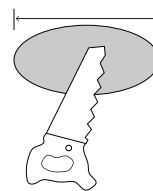

Fig. 2
3. Push the spring-loaded clips upwards and insert the fixture into the mounting hole. Release the clips and the fixture will grip flush with the ceiling / drywall. (Fig. 2 and 3)
4. Push the spring-loaded clips upwards and insert the fixture into the mounting hole. Release the clips and the fixture will grip flush with the ceiling / drywall. (Fig. 2 and 3)
5. Push the spring-loaded clips upwards and insert the fixture into the mounting hole. Release the clips and the fixture will grip flush with the ceiling / drywall. (Fig. 2 and 3)